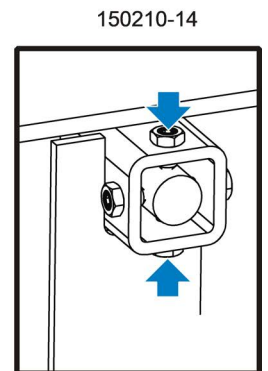

FIG. 7-13
6. Use the vertical adjustment screws to adjust the drive-side blade wheel. **See FIG. 7-13.**